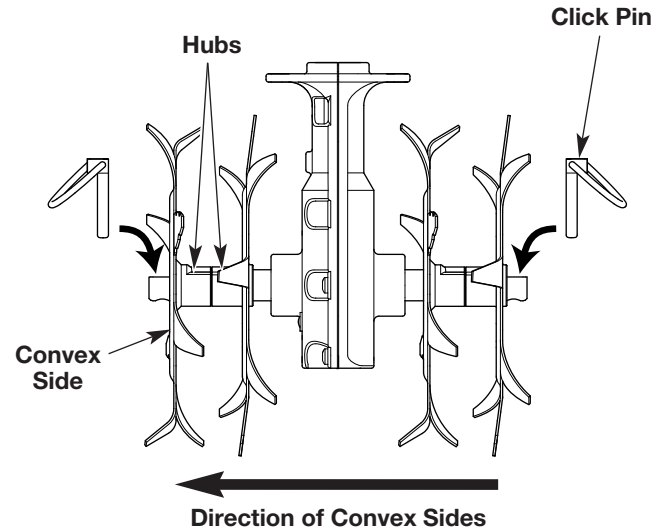

Fig. 9
2. Remove the click pin from each end of the tine shaft. Slide the tines off of the shaft (Fig. 9).
4. Slide on the new tines with the hubs facing each other (Fig. 9).
- NOTE:** Each tine has a convex side. Make sure that all of the convex sides are facing as shown in Figure 9.